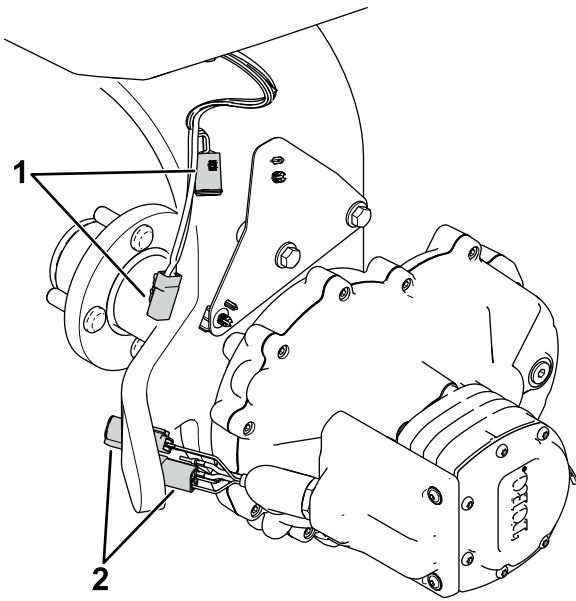

Figure 1
1. Disconnect the machine-wire-harness connectors from the motor connectors (Figure 1).